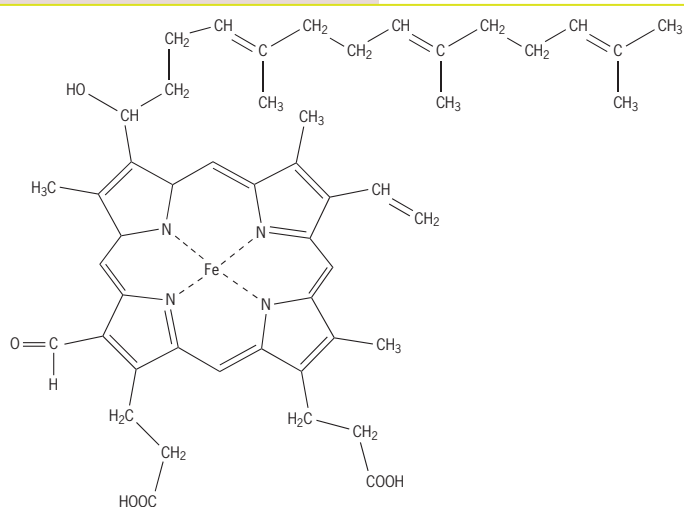

Figure 2.9.1 The heme group of cytochrome oxidase.
Iron-containing molecules called **cytochromes** are the principal electron-transfer molecules in the electron transport chain (the third stage in respiration). Cytochromes consist of an iron complex (called a heme complex) and a protein. The structure of the heme complex is shown in figure 2.9.1. The planar ligand to which the iron(II) ion is coordinated is called a porphyrin.
- 4 The structure of the heme group in cytochrome oxidase is shown in figure 2.9.1. Identify the type of bonding between the four nitrogen atoms and the iron.